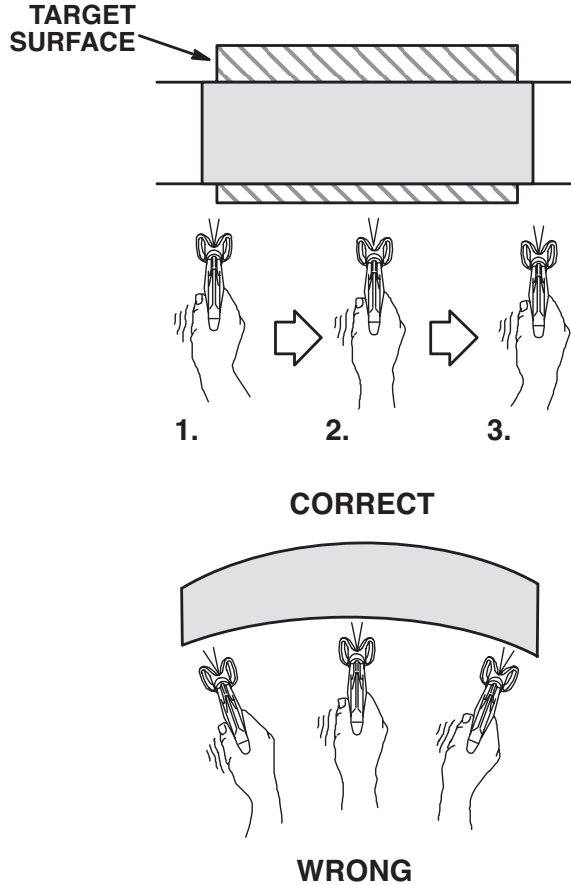
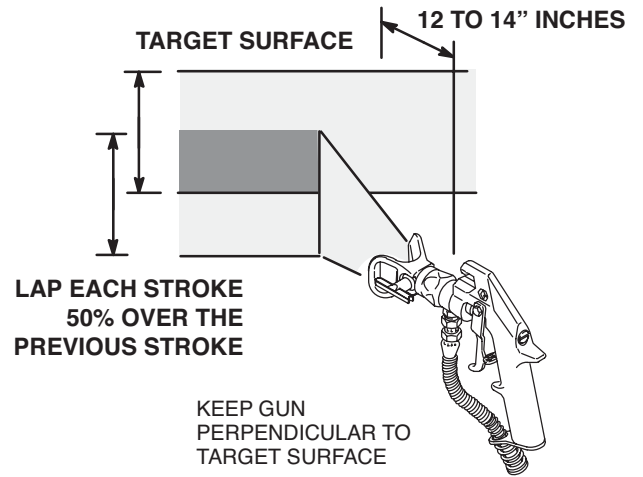

FIG. 10
FIG. 11
Read the spray techniques in Steps 1-5 below and FIG. 10 and FIG. 11, and follow 3M's recommendations on application of the masking liquid.
4. Hold the gun perpendicular (at right angles) to the target surface. Hold the gun as even 12 to 14" from the target surface. (FIG. 11)
5. Lap each stroke 50% over the previous stroke to produce a uniform material thickness. (FIG. 11)